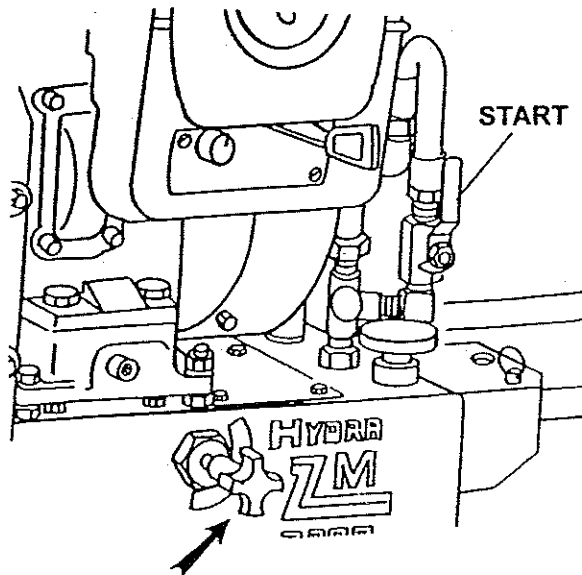

FIGURE 3.
4. Open the orange handle shut-off valve located on the hydraulic return hose. Handle should be in line with hose. Figure 3 shows the handle in the open position.
5. Turn the Pressure Adjustment Knob counterclockwise to lowest pressure setting. See Figure 3.